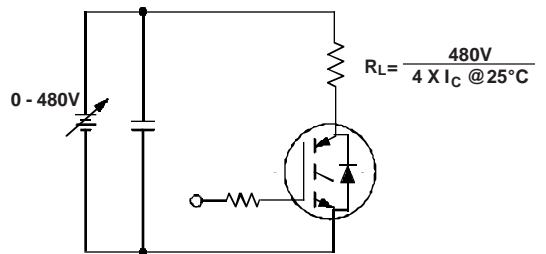

Figure 20. Pulsed Collector Current Test Circuit
- ① Repetitive rating; $V_{GE} = 20V$, pulse width limited by max. junction temperature. (See fig. 20)
- ① Repetitive rating: $V_{GE}=20V$; pulse width limited by maximum junction temperature (figure 20)